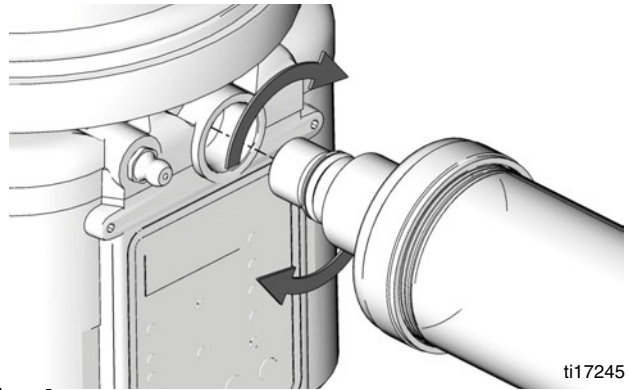

FIG. 4
5. Insert end of gun into pump outlet. Turn gun clockwise until it is tight in housing. Do not overtighten (FIG. 4).